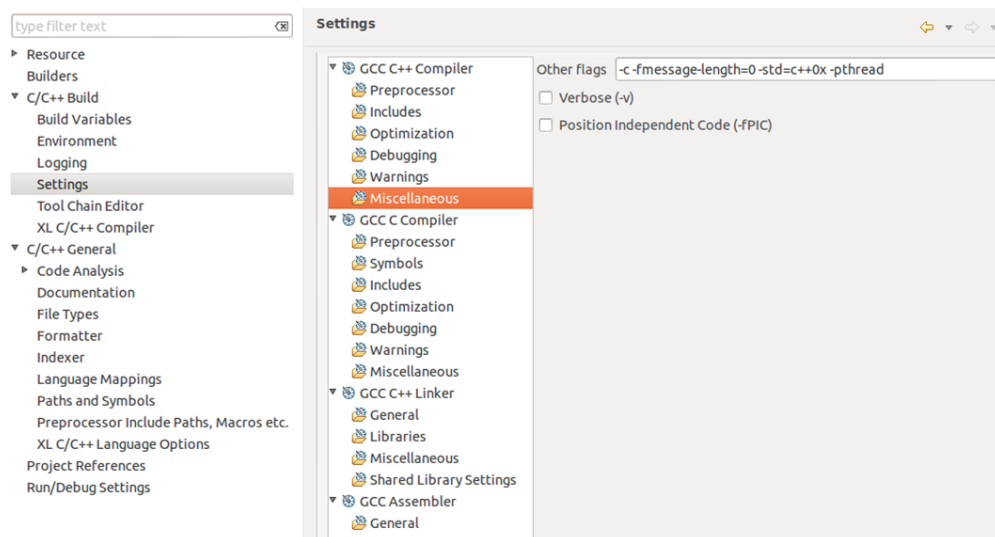

Figure 2: Project settings
- Navigate to *C/C++ Build* → *Settings* → *GCC C++ Compiler* → *Miscellaneous* and add “-std=c++0x -pthread” to *Other flags* textfield (see Figure 2). Add the same line to *C/C++ Build* → *Settings* → *GCC C++ Linker* → *Miscellaneous* → *Other flags*.